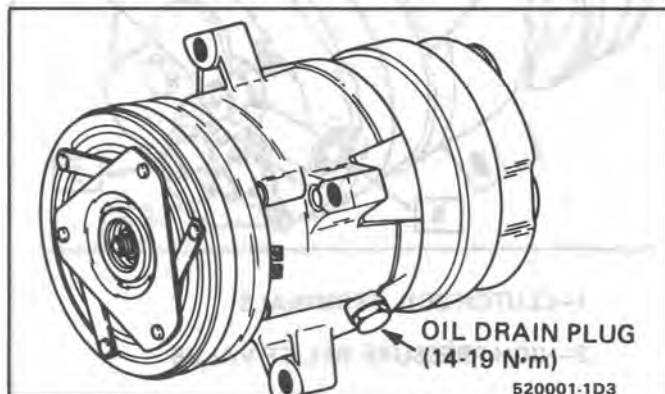

Fig. 1 V5 Compressor, V-Groove Pulley & Standard Mounting
Vehicles using the V5 compressor (Fig. 1) may have differences between installations in the mounting brackets, drive systems, pulleys, connections, and system capacities. Basic overhaul procedures are similar between compressors used on different vehicles.
**NOTICE:** It is important that the oil drain plug (Figure 1) be removed and the oil drained thru the plug opening to insure complete draining of oil from the compressor.